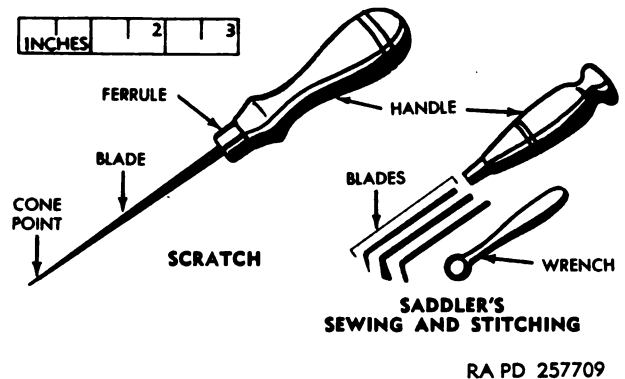

Figure 239. Types of awls.
196. Purpose of Awls (fig. 239)
a. *Saddler's Awls.* A saddler's sewing and stitching awl (fig. 239) has a curved blade that is 1½ inches long and a 2½-inch round wooden handle that is secured onto the blade by a ferrule. The blade can be replaced by loosening the collar with the wrench provided and inserting a new blade. Harness saddler's awls (not illustrated) are issued in 5 sizes, having a 1½-, 2-, 2¼-, 2½-, and 2¾-inch long blades. The pad saddler's awl (not illustrated) has a 4-inch blade.
b. *Scratch Awls.* The scratch awl (fig. 239) has a straight 3½-inch blade with a sharp cone-shaped point, a round-head wooden handle, and has an overall length of 6½ inches. The ferrule is secured onto the handle by a rivet, or by prick punching the ferrule.